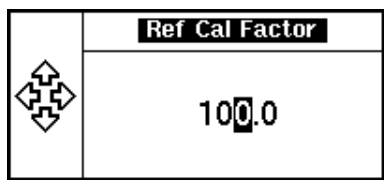

Figure 6-3 Reference Calibration Factor Pop-Up Window
- 4 If required, change this setting by pressing the channel . The reference calibration factor pop-up window is displayed as shown in Figure 6-3